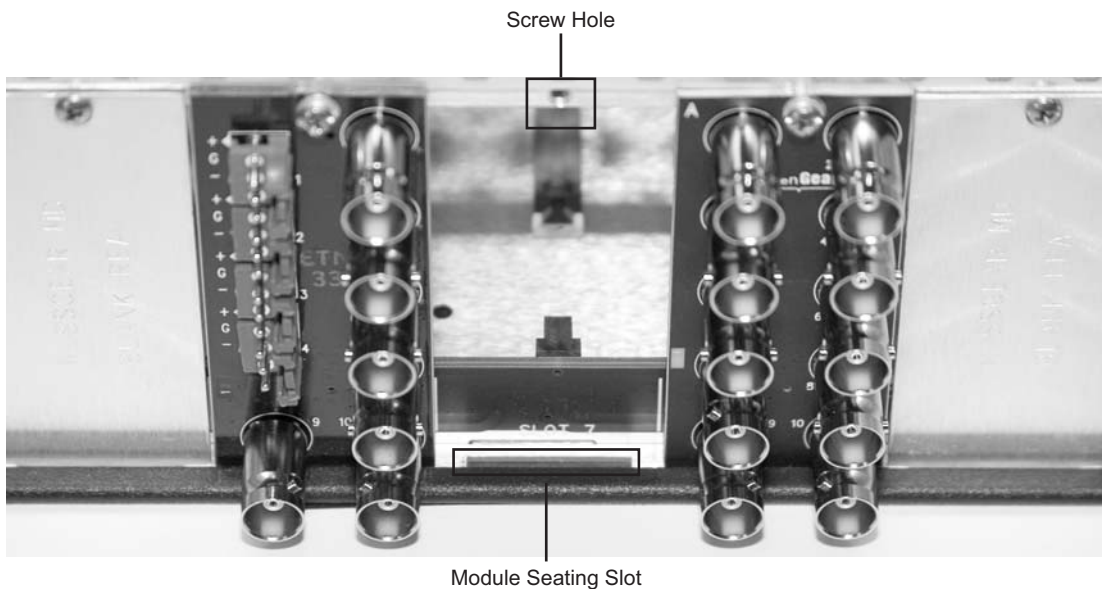

Figure 2.1 Rear Module Installation in a DFR-8300 Series Frame (ADA-8402-A not shown)
3. Install the bottom of the Rear Module in the **Module Seating Slot** at the base of the frame’s back plane. (**Figure 2.1**)